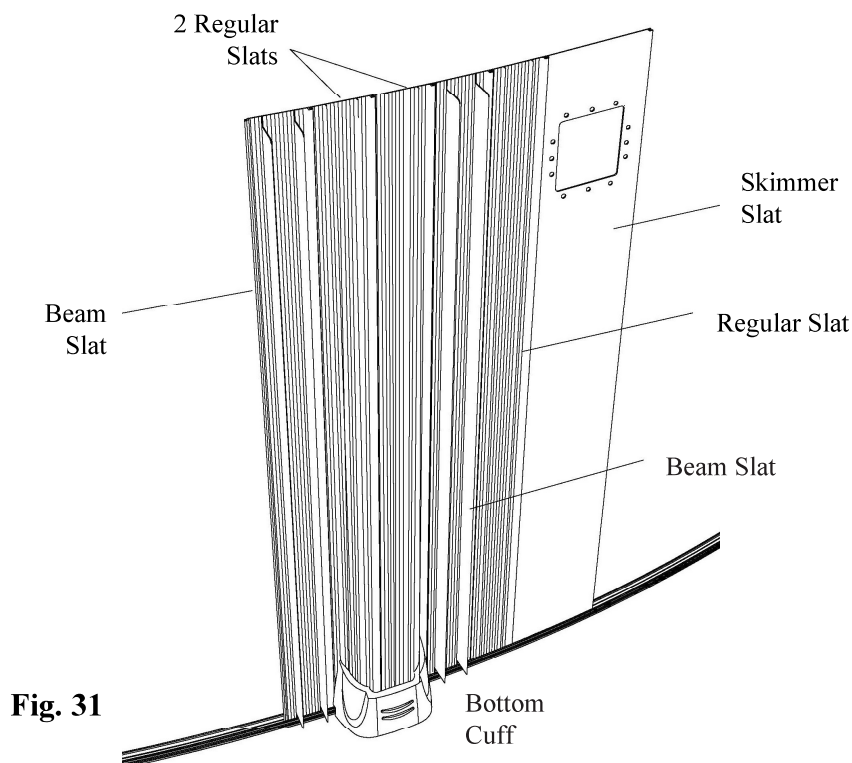

Fig. 31
**THEN, INSTALL A BEAM SLAT TO EACH SIDE OF THE BOTTOM CUFF. (Fig.31).**